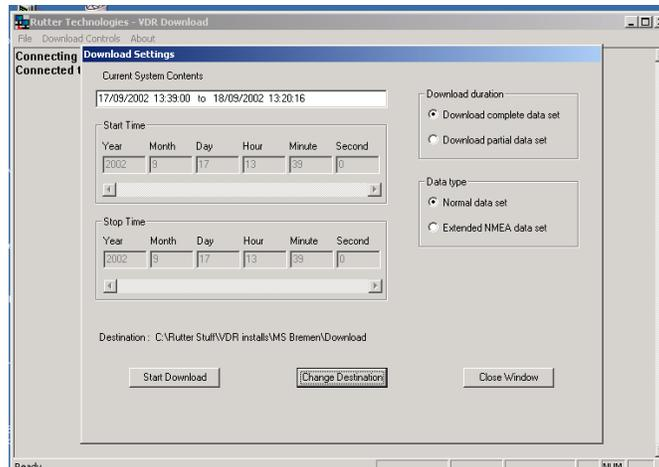

Figure 4-4 - Download Settings Window
3. Once prompted with the 'Download Settings' window (see *Figure 4-4 - Download Settings Window*), choose from the following available settings:
The Extended NMEA data set is a VDR-100G2 option, which supports the recording of up to 185 days of NMEA data to the DMM. When an extended NMEA download occurs, no video or audio data is included in the download. To select the extended NMEA download, check the 'Extended NMEA Download' located in the 'Download Settings' window (see *Figure 4-4 - Download Settings Window*).
A 'complete' download is the process of downloading a full 24-hour data set from the DMM. As a user may want only a 'partial' download, a 'Download partial data set' option is available. Select either 'Download complete data set' or 'Download partial data set' in the 'Download Settings' window (see *Figure 4-4 - Download Settings Window*) to download the desired data set.